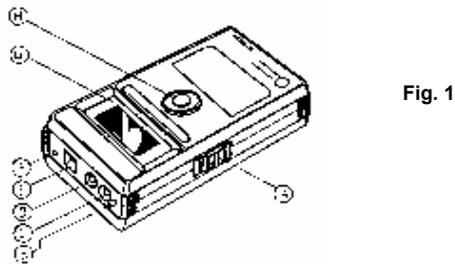
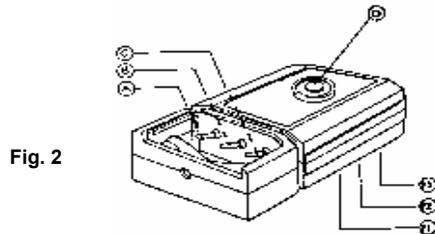

Fig. 1
Fig. 2
The GOLDILUX series of ultraviolet meters consists of a number of different models of UV-A, UV-B and UV-C meters (with built-in detector and display, Fig. 1) and a series of external probes (with built-in detector, but without display, Fig. 2). The external probes can either be used in combination with any of these meters or together with a non-specific UV meter (without built-in detector, but with display). The non-specific UV (GUV-0L) meter can only be used in conjunction with an external probe and not by itself.
Avoid touching the detector (H in Fig. 1 or D in Fig. 2) as natural oils and acids from the skin may form a layer, which absorbs UV, or could etch and damage the surface. The detector can be cleaned with a soft clean cloth or tissue moistened with alcohol. Dry and polish lightly with a dry tissue.
- c) Adjust the meter with the calibration adjustment (F in Fig. 1) until it reads correctly.
- d) Seal the hole (F in Fig. 1) with a suitable calibration sticker.
- a) Plug the probe into the meter and set the probe's range factor selector switch (A in Fig. 2) to the lowest range factor.
Any external UV probe (e.g. UV-B) can be plugged into any model of UV meter (e.g. UV-A). In this case the UV detector in the meter is automatically disconnected and the displayed reading corresponds to the quantity measured by the probe (units as stated on the probe). External probes cover an even wider measuring range than the meters with a built-in detector as they have a built-in range selector switch (A in Fig. 2) to toggle
Fig. 1 indicates the location and function of the various switches, connectors and other features of the UV meters, which are accessible externally. The same features for the external UV probes are shown in Fig. 2. The meter ON/OFF switch (A in Fig. 1) is located on the side of the meter housing and should be moved forward to switch on the meter.
The hold button (B in Fig. 1) can be used to "freeze" the display for convenient reading by the operator. The operation of this hold button can also be effected by using a remote hold cable plugged into the remote hold connector (C in Fig. 1).
The meters also provide an analog output (stereo socket D in Fig. 1), which supplies a 2V output for a full-scale reading. It has an output impedance of 10 kΩ and can be used to record UV levels on a chart recorder or any other suitable data acquisition system.
- b) With the cap firmly on the probe detector (D in Fig. 2) adjust the meter reading to zero via potentiometer P5 as indicated on the probe's rear panel label. For high-gain probes (probes with a range factor <1) this may only be possible to within ± 5 in the least significant digit.